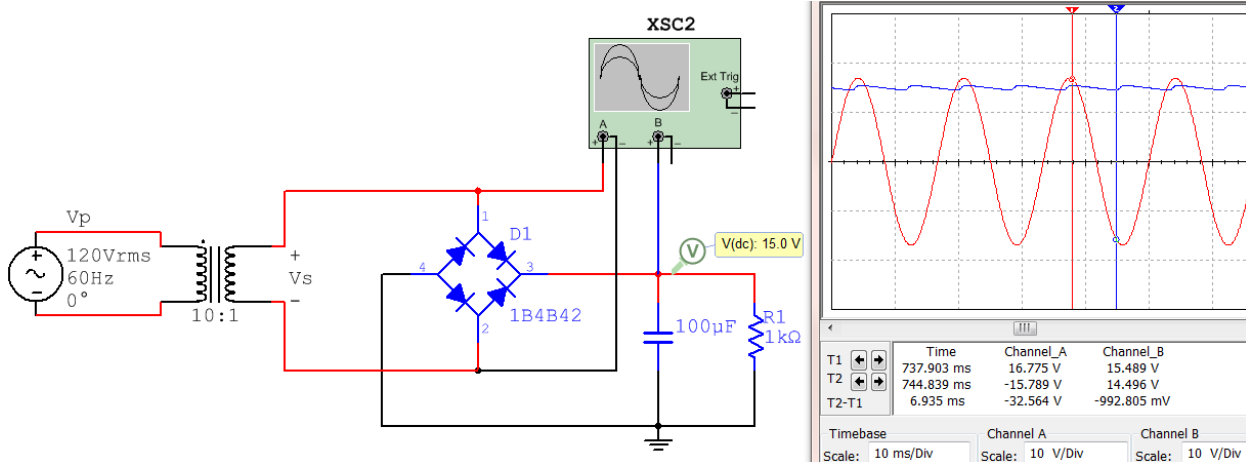

Figure 6.17: Full-Wave Peak Bridge Rectifier.
- Full-Wave Peak Bridge Rectifier (See Figure 6.17)
- $V_s =$ peak input voltage = $120 \cdot \sqrt{2} / 10 = 16.97 \text{ V}$ (16.775 V in Figure 6.17).
- $V_{o,pk} =$ peak output voltage = $V_s - 2 \cdot 0.7 \text{ V} = 15.57 \text{ V}$ (15.49 V in Multisim - Figure 6.17).
- $V_r =$ ripple voltage ($V_{o,pk} - \text{minimum } V_{out}$) = $\frac{V_{o,pk}}{2fRC} = \frac{15.57}{2 \cdot 60 \cdot 1k \cdot 100\mu} = 1.3 \text{ V}$ ($\sim 1 \text{ V}$ in Figure 6.17).
- $V_{o,DC} =$ the approximate DC voltage of the output (centerline of the ripple). In Figure 6.17 $v_{o,DC}$ is equal to $15.57 - 0.5 \cdot V_r = 14.92 \text{ V}$. The DC voltage probe in Figure 6.17 measures the DC voltage as 15 V.